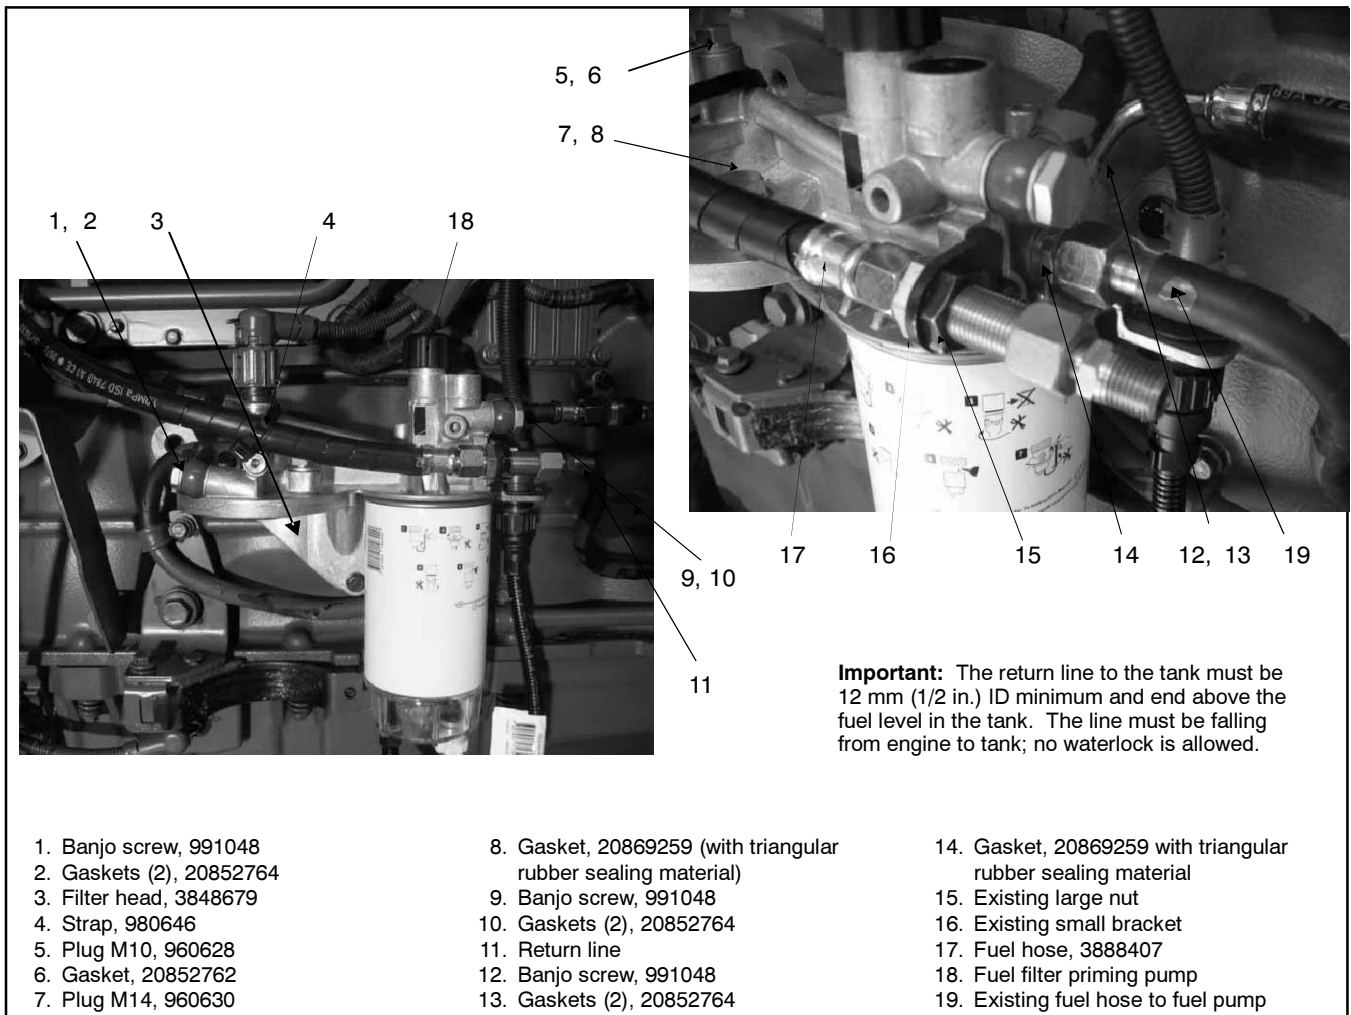
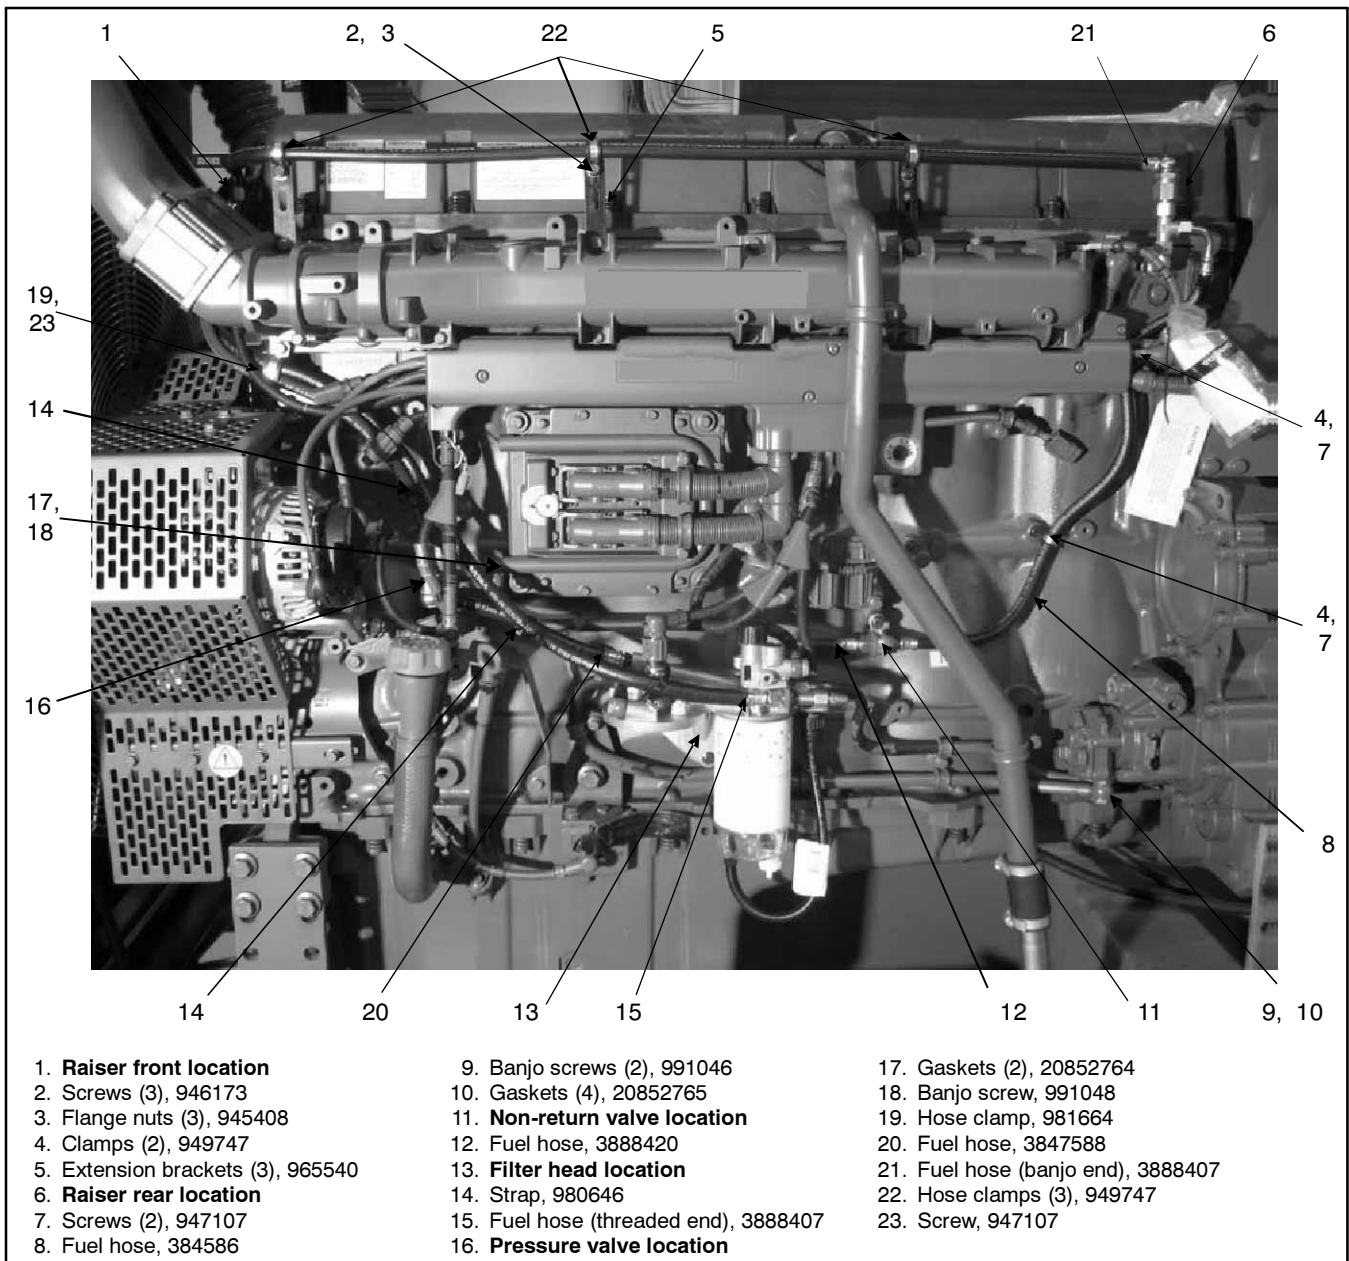
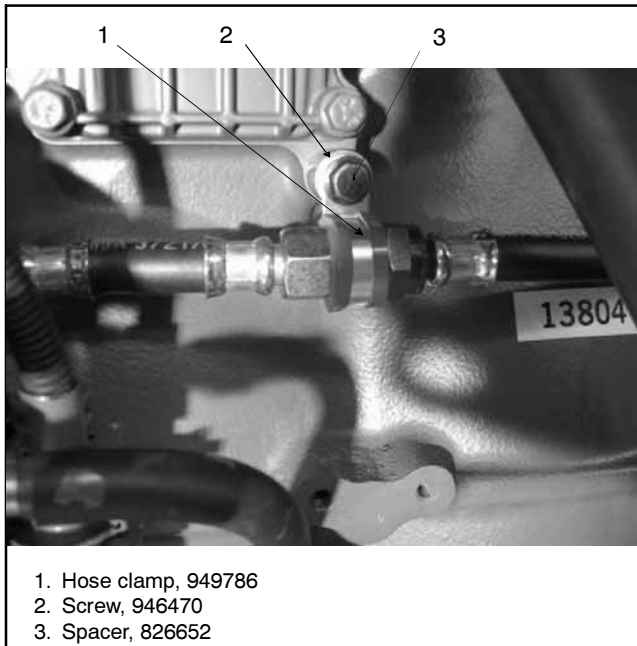
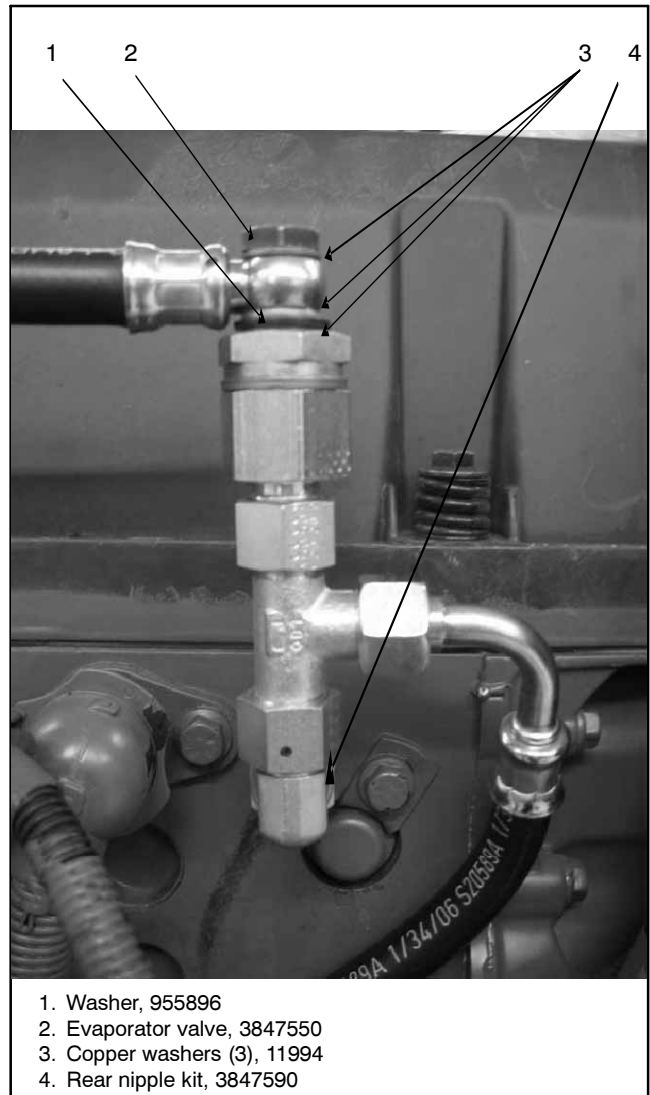

Figure 3 Filter Head Components
Figure 4 Fuel Hose Kit
Figure 5 Non-Return Valve Components
Figure 7 Rear Riser Components
- 1.3.1 Disconnect the fuel line between the fuel pump and the water separator. Remove the fitting from the filter head and install the fitting in the new filter head 3848679 (Figure 3, item 3) using gasket 20869259 (Figure 3, item 14). The banjo screw and two gaskets removed from the fuel pump location will not be reused.
1.3.8 Remove the screw and small bracket where the large nut/fitting was removed from the existing filter head. Install the screw and small bracket on the new filter head. See Figure 3, item 16. To prevent stripped threads, be sure to keep the screw straight as it self threads in the filter head.
1.4.1 Disconnect the fuel line between the fuel pump and the water separator. Remove the fitting from the filter head and install the fitting in the new filter head 3848679 (Figure 3, item 3) using gasket 20869259 (Figure 3, item 14). The banjo screw and two gaskets removed from the fuel pump location will not be reused.
- 1.4.9 Remove the screw and small bracket where the large nut/fitting was removed from the existing filter head. Install the screw and small bracket on the new filter head. See Figure 3, item 16. To prevent stripped threads, be sure to keep the screw straight as it self threads in the filter head.
Install the fuel hose kit using the following steps and refer to Figure 3 through Figure 7 as needed.
- 1.5.2 Assemble fuel hose 3888420 (Figure 4, item 12) to fuel hose 384586 (Figure 4, item 8). This hose assembly contains the non-return valve.
- 1.5.3 Attach fuel hose 3888420 (Figure 4, item 12) to water separator using banjo screw 991048 (Figure 3, item 18) and two gaskets 20852764 (Figure 3, item 17).
- 1.5.4 Attach the non-return valve/fuel hose assembly from step 1.5.2 to the engine block using spacer 826652 (item 3), hose clamp 949786 (item 1), and M8 x 35 screw 946470 (item 2) shown in Figure 5.
- 1.5.6 Attach the existing fuel line from the fuel pump to the fuel filter using two banjo screws 991048 (Figure 3, item 1) and four gaskets 20852764 (Figure 3, item 2).
- 1.5.8 Attach existing fuel line from engine cooling loop to right side of water separator using two banjo screws 991048 (item 9) and four gaskets 20852764 (item 10) shown in Figure 3.
- 1.5.10 Install M10 plug 960628 (item 5) and gasket 20852762 (item 6) in filter head as shown in Figure 3. This location had a small rubber hose installed on the old filter head.
- 1.5.11 Install M14 plug 960630 (item 7) and gasket 20869259 (item 8) in filter head as shown in Figure 3.
- 1.5.13 Attach fuel hose 3847588 (item 20) to the left side of fuel filter as shown in Figure 4. This fuel return line has an O-ring with the fitting and connects between the fuel pressure valve and the filter head.
1.5.16 Remove the bottom fitting (rear nipple kit 3847590) on the rear riser, install the bottom fitting to the rear of the cylinder head, and attach and position the remaining rear riser assembly (evaporator valve 3847550) to the fitting as shown in Figure 7.
1.5.17 Route fuel hose 384586 (item 8) as shown in Figure 4 and attach to the rear riser. It may be necessary to loosen the fitting at the non-return valve (see Figure 5) in order to route the fuel hose without binding. Tighten the fitting at the non-return valve as needed.
1.5.18 Secure fuel hose 384586 (item 8) to the engine block using two hose clamps 949747 (item 4) and two M8 x 12 screws 947107 (item 7) at the positions shown in Figure 4.
- 1.5.22 Remove three screws from the air charge manifold, add three extension brackets 965540 (item 5), and replace the existing screws as shown in Figure 4.
- 1.5.25 Route end of fuel hose 3888407 (item 17) with threaded end to the small bracket on the filter head (item 16) and install existing large nut (item 15) as shown in Figure 3.
- 1.5.26 Route end of fuel hose 3888407 with banjo fitting to rear riser and install, using evaporator valve (banjo screw) 3847550 (item 2), three copper washers 11994 (item 3), and washer 955896 (item 1) as shown in Figure 7.
- 1.5.27 Install three hose clamps 949747 (item 22) to fuel hose 3888407 (item 21) and attach to brackets using three M8 x 20 screws 946173 (item 2) and three flange nuts 945408 (item 3) as shown in Figure 4. Place hose clamp on bracket side away from valve cover. Final tighten screws on hose clamps to give excess fuel hose length at front riser to provide maximum fuel hose radius at front riser.
- 1.5.30 Locate the two fuel hoses attached to the front riser and going to the filter head. Place the large hose clamp 981664 (item 19) on the two fuel hoses and attach to the engine block using M8 x 12 screw 947107 (item 23) as shown in Figure 4.
- 1.5.31 Install strap 980646 (item 14) to fuel hoses as shown in Figure 4. Trim excess from strap.
- 1.5.32 Install strap 980646 (item 4) to fuel hose and fuel filter sensor as shown in Figure 3. Trim excess from strap.
- 1.7.4 Use the priming pump located on the top of the fuel filter to prime the fuel system as shown in Figure 3, item 18. Press down and rotate slightly counterclockwise to release the plunger. Press the plunger down as least 50 times to purge air from the fuel system. If a new fuel filter and/or water separator was installed, pump an additional 20 times. Press down and turn slightly clockwise to lock the plunger. See the respective engine operation manual for additional information.